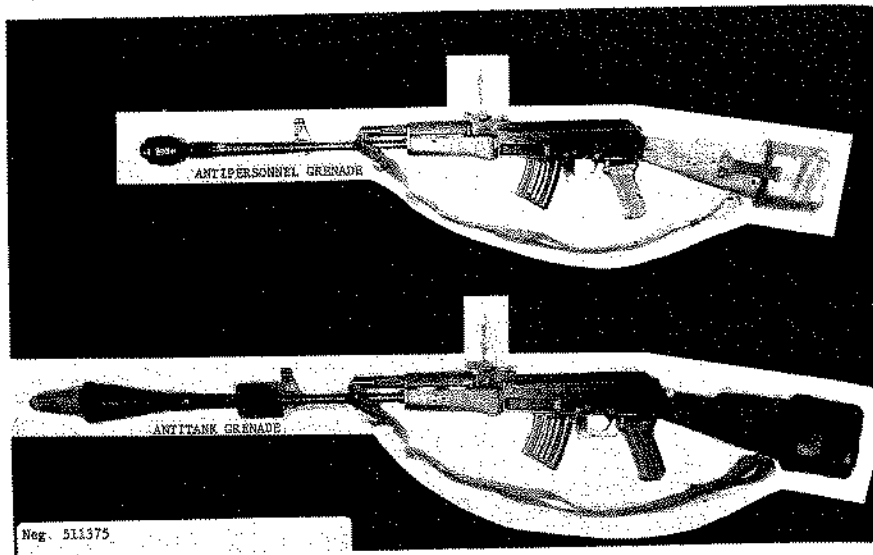
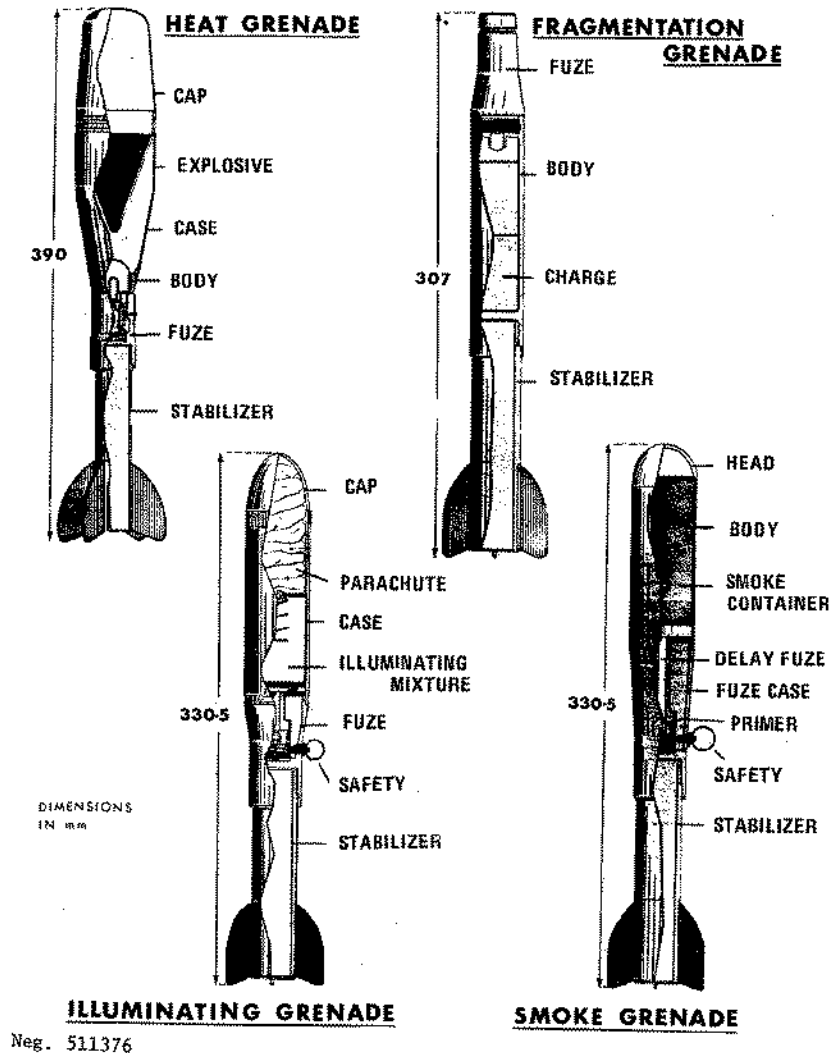

Figure 76. Polish rifle grenade.
Figure 77. Yugoslav rifle grenades.
a. Only the Polish-made F1/N60 antipersonnel and PGN-60 antitank grenades (fig 76) can be launched from the Polish PMK-DGN-60. These grenades have 20-mm tubes; all other rifle grenades have 22-mm tubes. It is extremely hazardous to launch any grenade other than an F1/N60 or PGN-60 from the PMK-DGN-60. The Yugoslav M64 series rifles use only 22-mm tubed grenades (fig 77) of Yugoslav manufacture.
d. Select the appropriate type of grenade—Polish F1/N60 (fig 76) or Yugoslav M60 fragmentation grenade (fig 77) against personnel, Polish DGN/60 (fig 76) or Yugoslav M60 shaped charge grenade (fig 77) against armored vehicles—slide the grenade boom over the launcher and seat the grenade fully, until it stops.